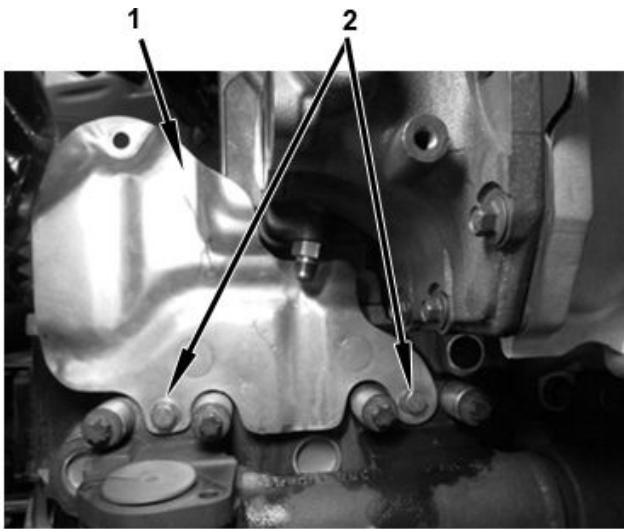

Figure 25. EGR Heat Shield.
4. Install EGR heat shield (Figure 25, Item 1), two M8 x 12 bolts (Figure 25, Item 2), and torque to 18 lb-ft (24 N·m).